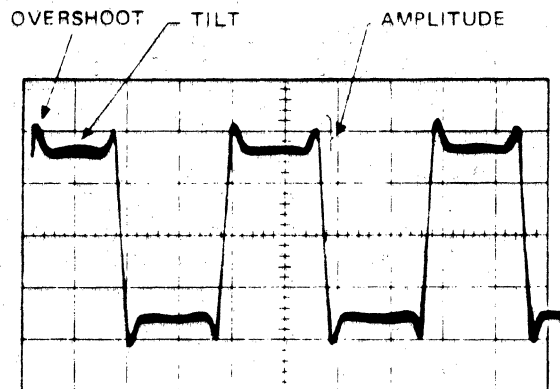

Figure 6-1. Equalization Waveform
- Step 10. Record a few minutes, as desired, of each of the Table 6-7 frequencies at the indicated speed. While recording each frequency, monitor the reproduce board output at testpoint TP2 (HI) and TP3 (LO) with an oscilloscope and perform the following adjustments on the proper equalizer associated with the speed. Refer to Figure 6-1.